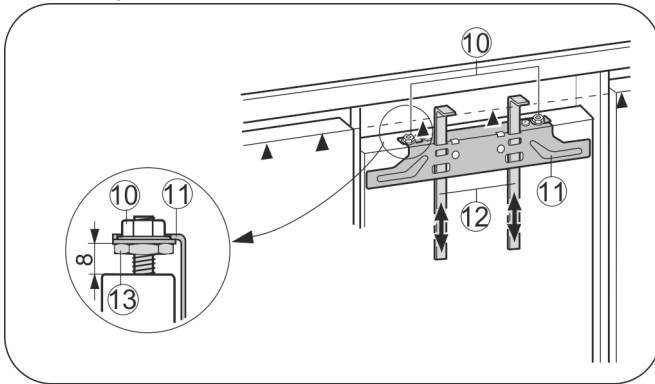

Fig. 28
- Raise the fitting aids Fig. 28 (12) to unit door height. Bottom stop edge of ▲ the fitting aid = top edge of the unit door to be fitted.
- Unscrew the crosspiece Fig. 28 (11) by undoing the locknuts Fig. 28 (10).